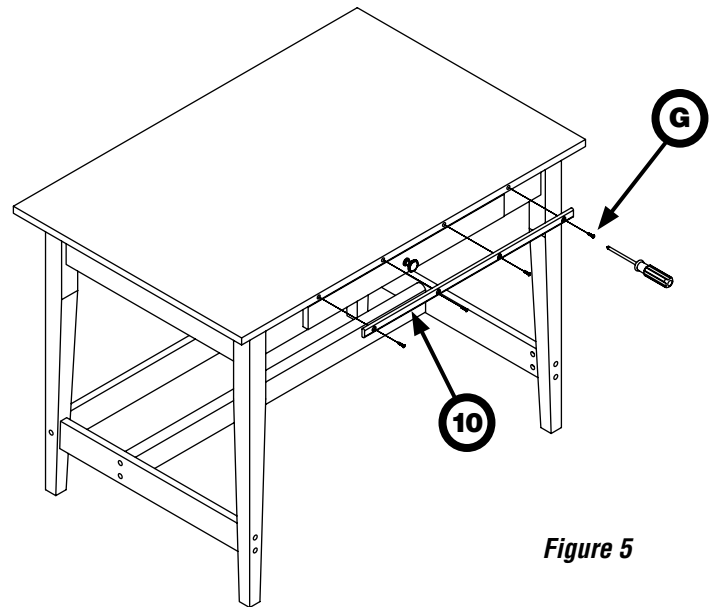

Figure 5
- 4** Choose which position you desire and attach pencil ledge to front edge of tabletop using 1/2" bolts (**G**) into threaded inserts, as shown in Figure 5. Tighten firmly using care not to strip.